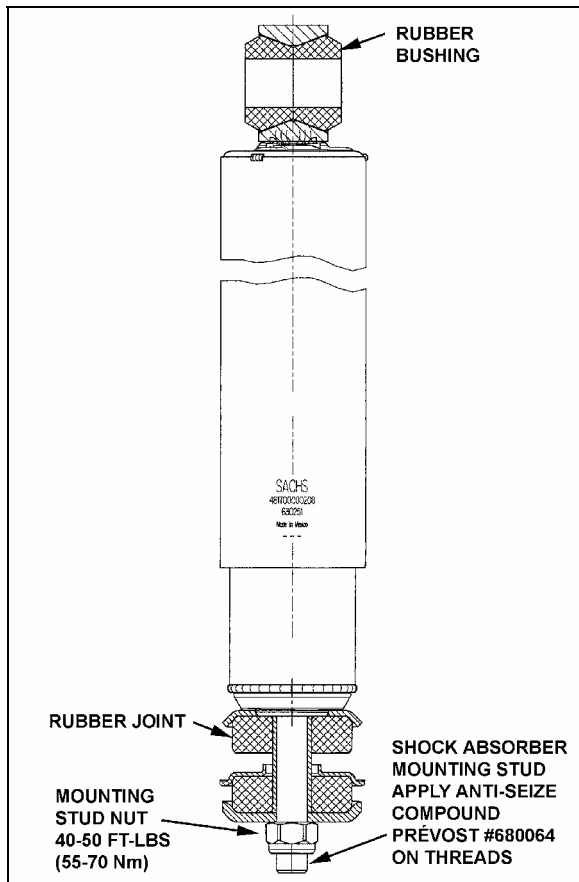

FIGURE 24: SHOCK ABSORBER
2. Remove the nut and washer from shock absorber mounting pin (upper side), taking care to identify the inner and outer washers to ease reinstallation. Refer to figure 24 for details.
3. Place the inner washer on shock absorber pin (Fig. 24).